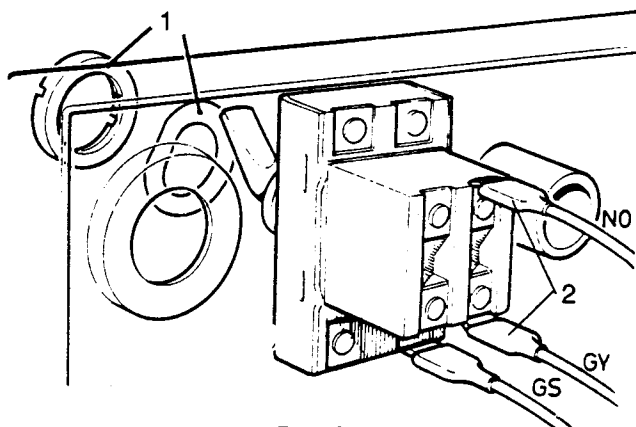

Fig N3.7
- (2) Refer to Fig N3.7. Unscrew the lockring (1) and withdraw the wave washer from the switch knob.
- (3) Withdraw the instrument panel from the dash (see Sub-section O5, Chapter 27).
- (4) Disconnect the leads from the switch.
- (5) Withdraw the switch.